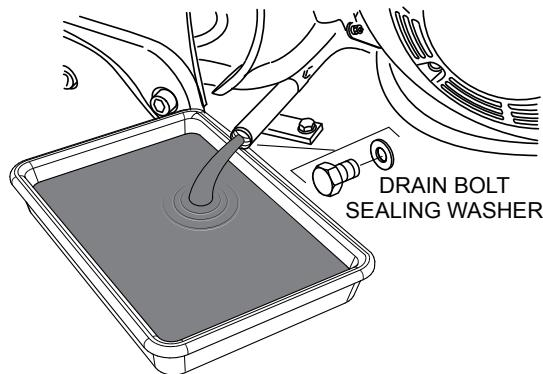

Figure 28. Draining Engine Oil
- Remove the oil drain bolt (Figure 28), and sealing washer and allow the oil to drain into a suitable container.